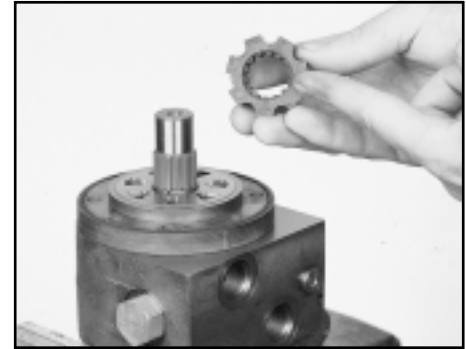

Figure A07
9. Place the inner counterbored side down on the splines so that the semi-circular roll pockets are between the rotary valve port windows. SEE FIGURE A07.